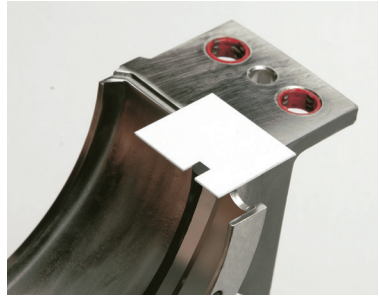

Figure 25
9.5 Push the end into the adhesive and check the gasket extension with the height gauge. Hold it in place for 10 seconds. See Figure 25.